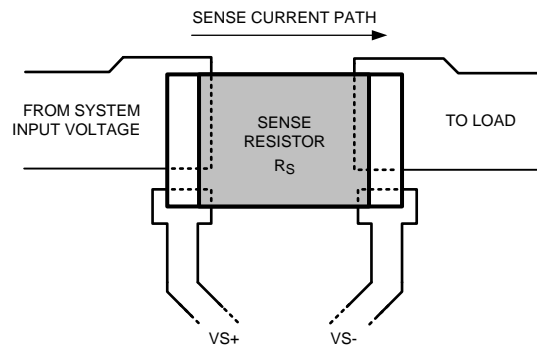

Figure 18. Sense Resistor Connections
Connections from R_S to the LM25056 should be made using Kelvin techniques. In the suggested layout of Figure 18, the small pads at the lower corners of the sense resistor connect only to the sense resistor terminals and not to the traces carrying the high current. With this technique, only the voltage across the sense resistor is applied to $VS+$ and $VS-$, eliminating the voltage drop across the high current solder connections.
- The sense resistor (R_S) should be placed close to the LM25056. In particular, the traces to the $VS+$, $VS-$, and VIN pins should be made as low resistance as practical to ensure maximum current and power measurement accuracy. Connect R_S using the Kelvin techniques shown in Figure 18.